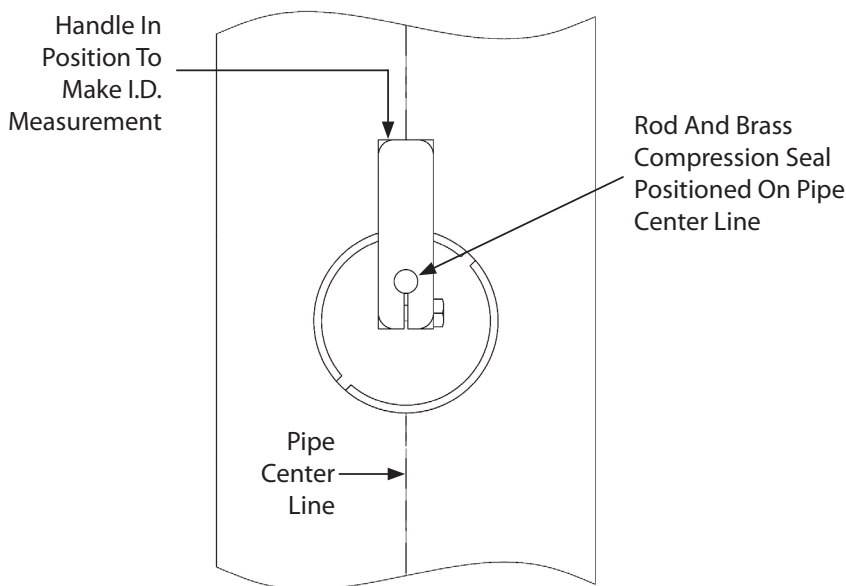

Figure 2: Proper Handle Position For Measurement
5. Thread the pipe caliper assembly onto the 2" valve so the rod and brass compression seal are in line with the centerline of the pipe. See *Figure 2*. Typically, hand tight is adequate.
8. Slide the rod through the brass compression seal until the foot is in the pipe. Rotate the handle 180° clockwise so the handle is pointing away from the pipe tap. See the top drawing on *Figure 2*.